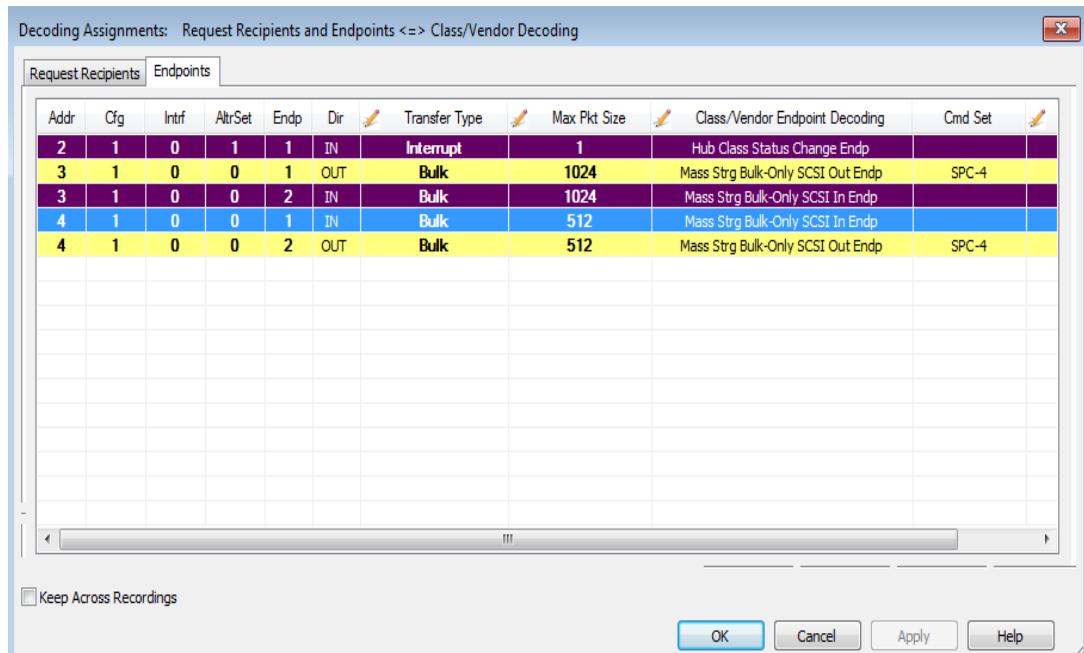

Figure 9.3: Request Recipients and Endpoints - Class/Vendor Decoding Endpoints Tab
3. Click the **Endpoints** tab to display the **Endpoints** dialog box. See Figure 9.3 on page 401.